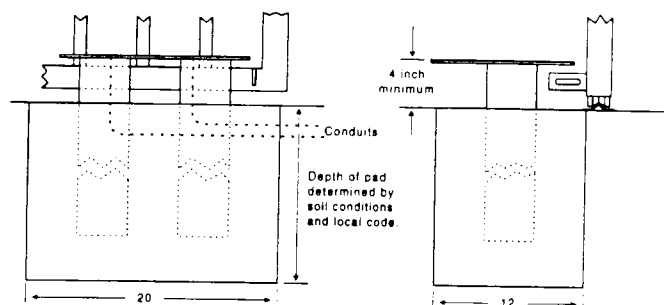

FIGURE 1.5.2B
2. After the posts have been welded to the base plate to form the mounting plate assembly, construct a form for the assembly according to the specifications in figure 1.5.2B.
3. Position the mounting plate assembly into the form. Be sure that the base plate is a minimum of four (4) inches above ground level.